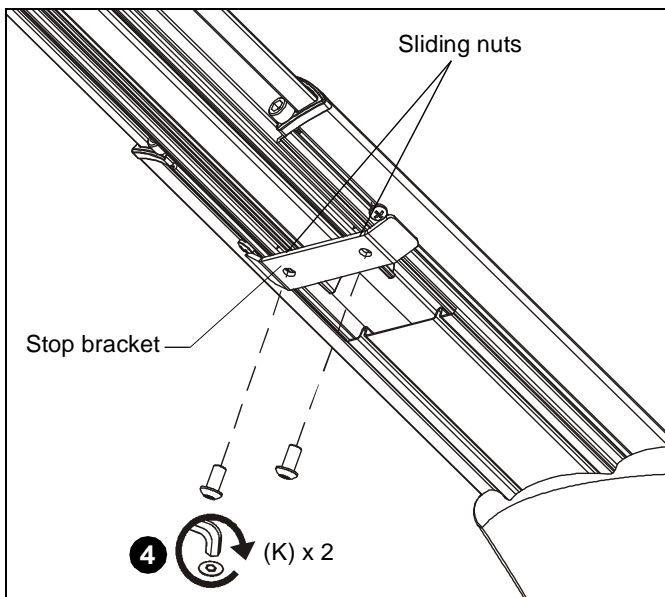

Figure 30
- Install two 1/4-20 x 1/2" button head security screws (K) through holes in stop bracket and into holes in sliding nuts. (See Figure 30)